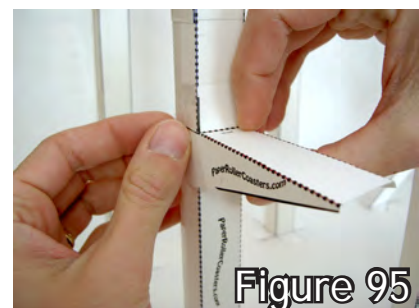

Figure 95
3. Fold down the sides and fold up the small flap. Tape the small flap to a column. (fig. 95)